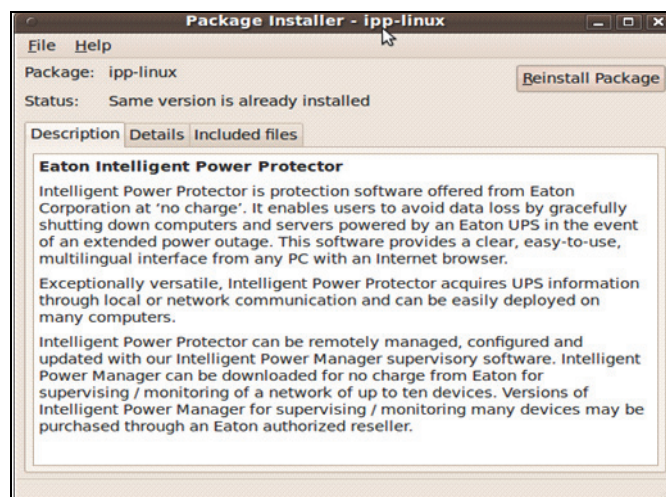

Figure 7. Gdebi Front End
2. The system prompts for the root password and then launches a graphical front end, such as Gdebi (see Figure 7):